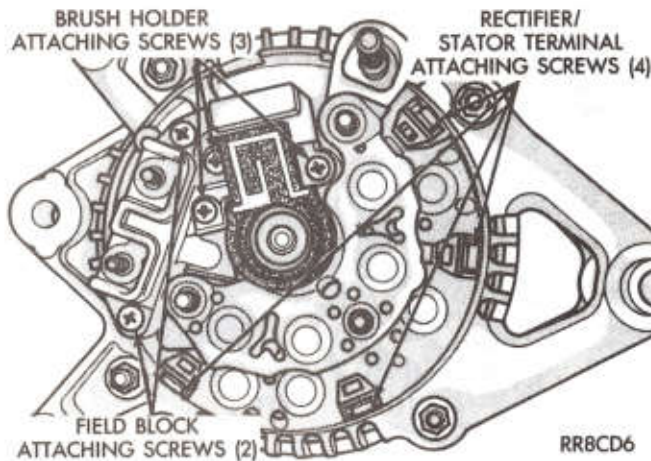
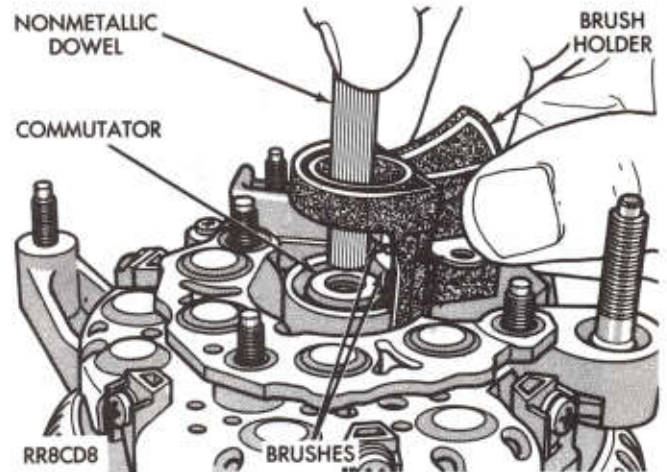

Fig. 5—Remove or Install Attaching Screws
Fig. 7—Push Brushes into Holder and Install
(2) Remove brush holder attaching (3) screws and lift the brush holder from the alternator (Fig. 5 and 6). When installing the brush holder, hold the brushes into the holder and slide the assembly over the commutator slip rings and screw into place (Fig. 7).
(4) Remove the rectifier and stator terminal attaching (4) screws and lift the rectifier from the alternator assembly (Fig. 5 and 9).